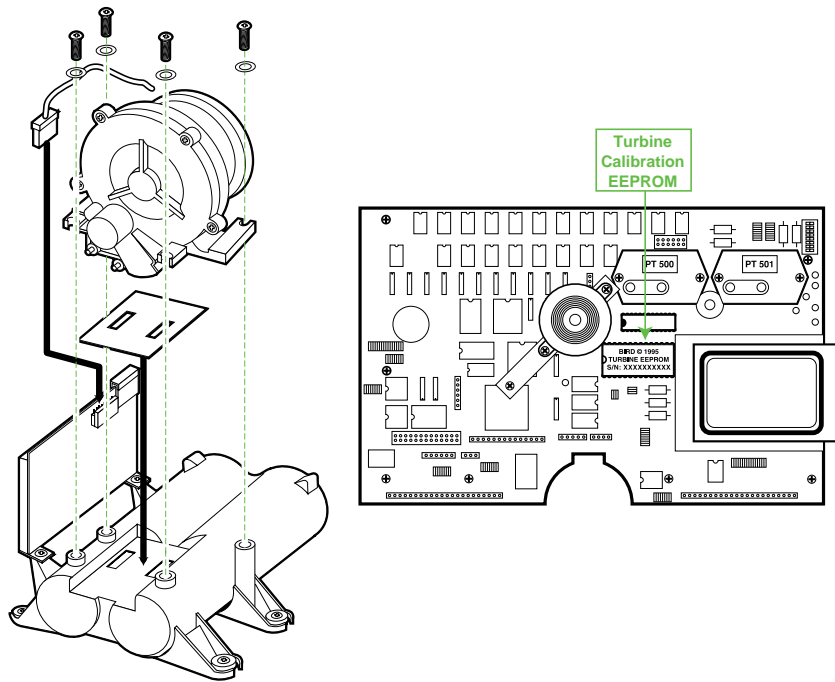

Figure 5-14. Turbine Assembly
4. Label and remove the two (2) pneumatic connections from the turbine.
5. Referring to Figure 5-14, remove the four (4) screws from the base of the turbine.
9. Referring to Figure 5-14, install the new turbine EEPROM making sure that the notch is facing to the left and that pins are properly aligned and engaged. Do not rely on the position of the label for installation.